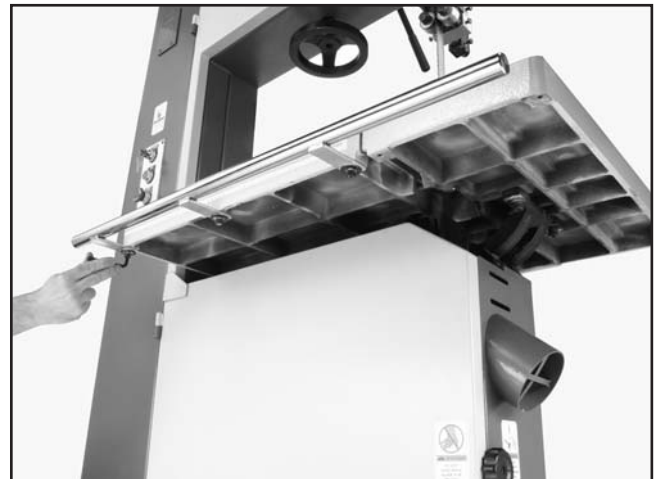

Figure 10. Tightening guard rail cap screws.
2. Flip the rail over and reinstall with the caps screws removed in **step 1 (Figure 10)**.